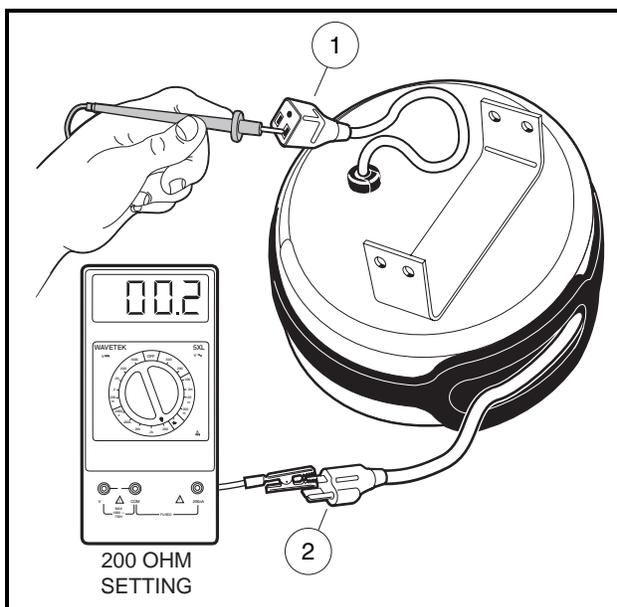

Figure 4-17 Retractable Cord Reel Test
5. Using a multimeter set for 200 ohms, place the red (+) probe in one of the flat blade openings of the cord reel receptacle (1) (**Figure 4-17, Page 4-19**). Test for continuity at the cord reel AC plug (2) on each of the flat blades and then on the round pin of the AC plug. The tester should indicate continuity on one flat blade only. If any other reading is obtained, the cord reel must be replaced.